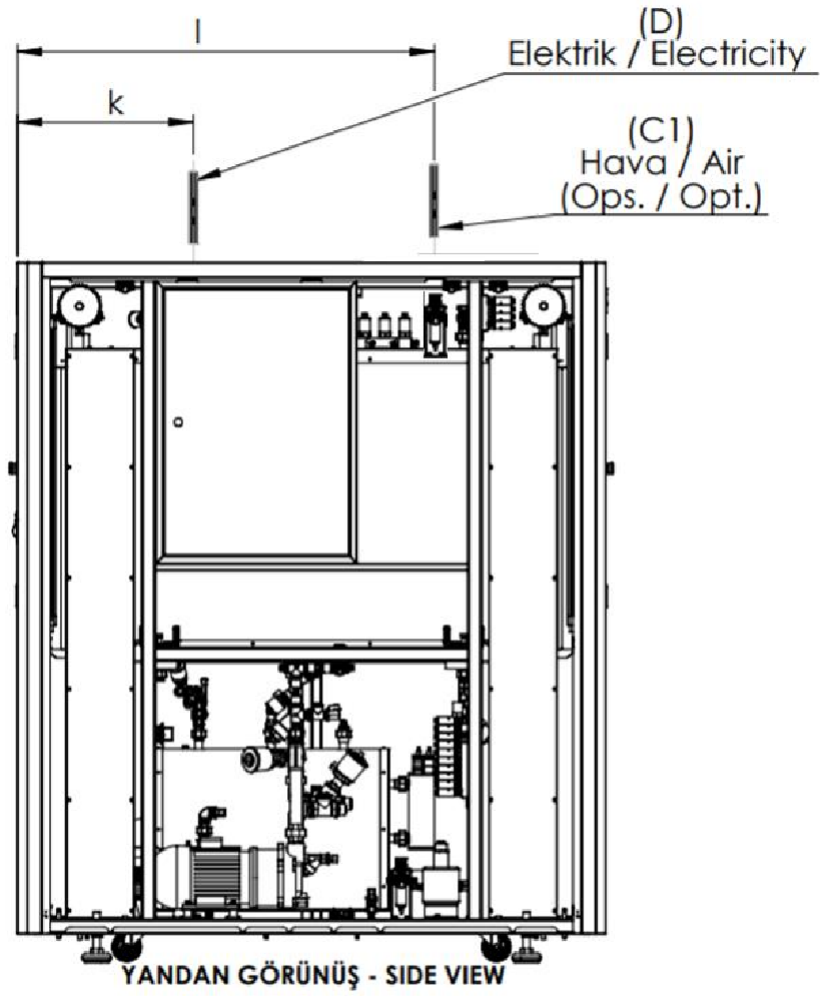

Figure.1
1. Nut shown in Figure 1 is removed.